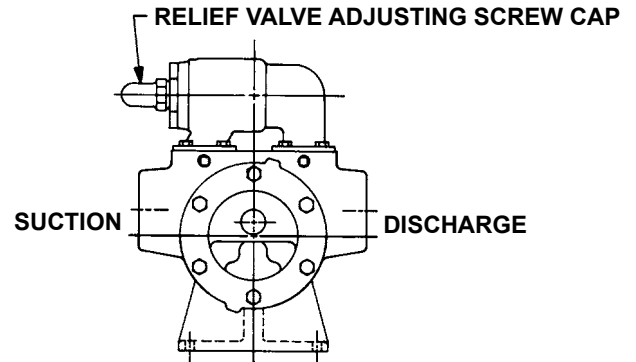

FIGURE 5
4. The relief valve adjusting screw cap must always point towards the suction side of the pump. If pump rotation is reversed, remove the pressure relief valve and turn end for end. Refer to **Figure 5**.